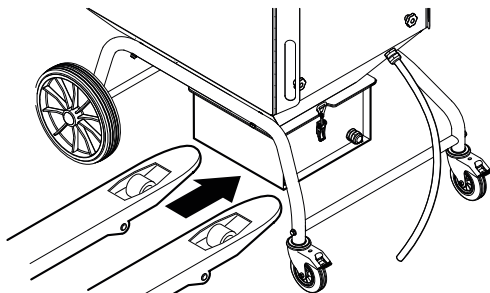

Fig. 21
1. Manoeuvre a suitable pallet truck underneath the dust collector, see **Fig. 21**.